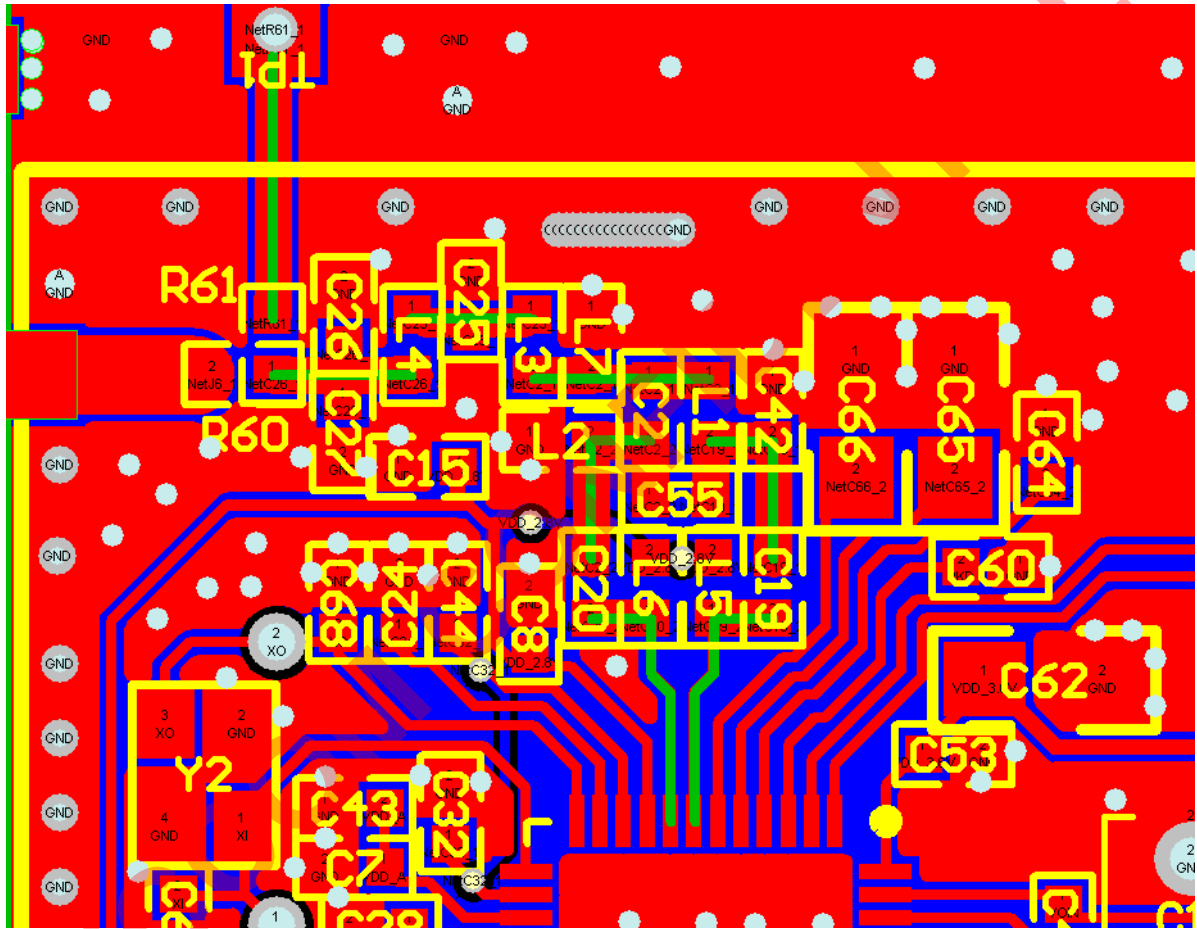

Fig. 2.2b 2.2b RF trace (green)
- The impedance of RF path should as close to 50 ohm as possible, and the length also should be as short as possible. The ground plane below the RF traces should be intact and not fragmentary. The matching components (C19, C20, L1, L2, C2, C42) should be symmetric place and close to A8101 IC. Please refer to the green traces in Fig. 2.2b.